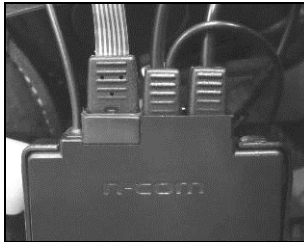

Fig. 41
- Gently position the connector in its seat until it is all the way in (Fig. 41).